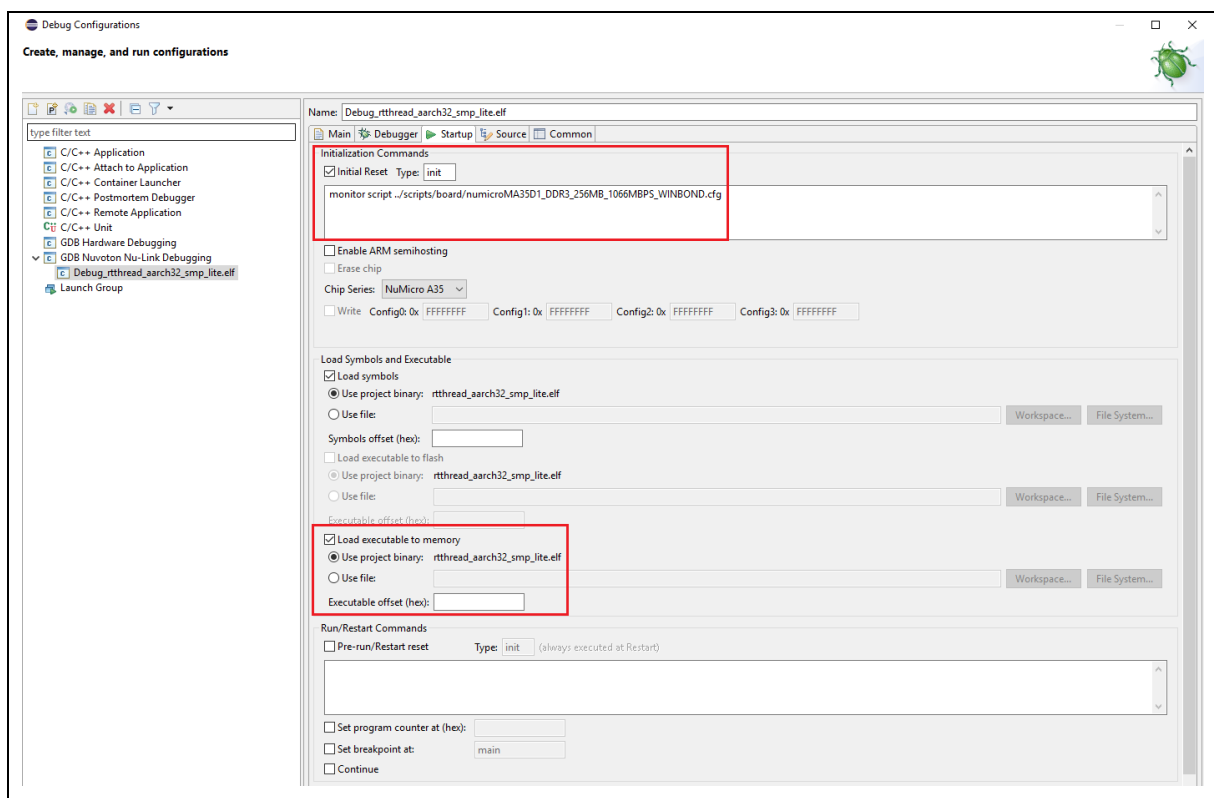

Figure 4-41 The First Time to Enter the Debug Mode Settings
5. Choose the ELF file to download and initial setting in the debug configuration (referring to Figure 4-41). Please based on DDR of dev-board to select the corresponding DDR initial file.